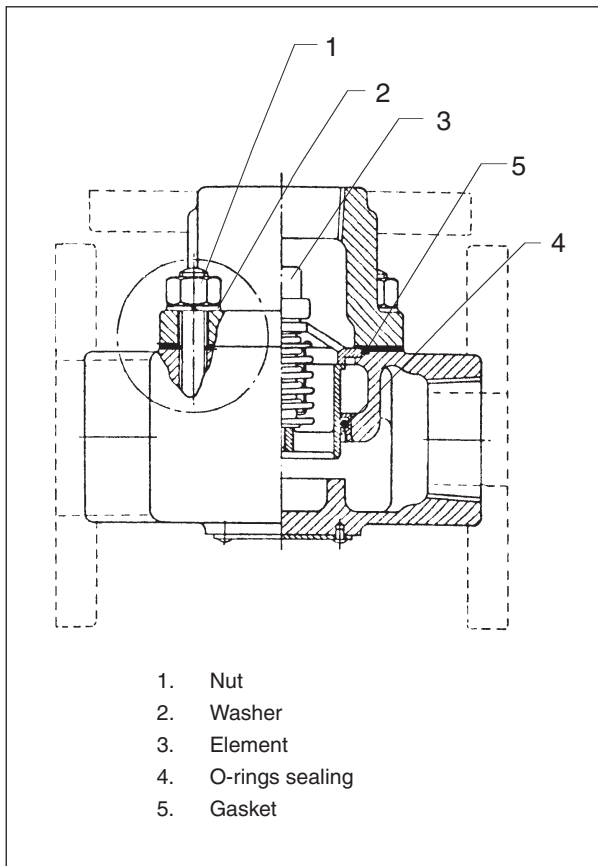

Fig. 1 Thermostatic valve
1) Remove nuts (1) and washers (2), 4 or 6 pcs. See fig. 1.
3) Remove the assembled elements (3) and the elements O-ring sealing.